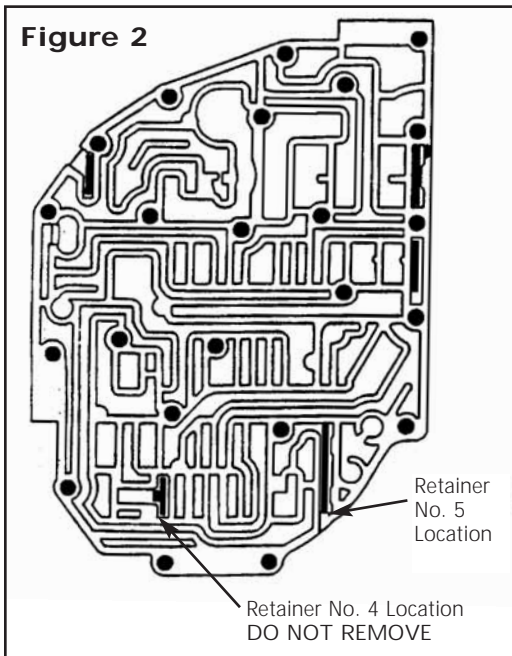

Figure 2
1. Remove OEM retainer #5 and TCC switch valve train. Do not remove retainer #4 (see Figure 2).